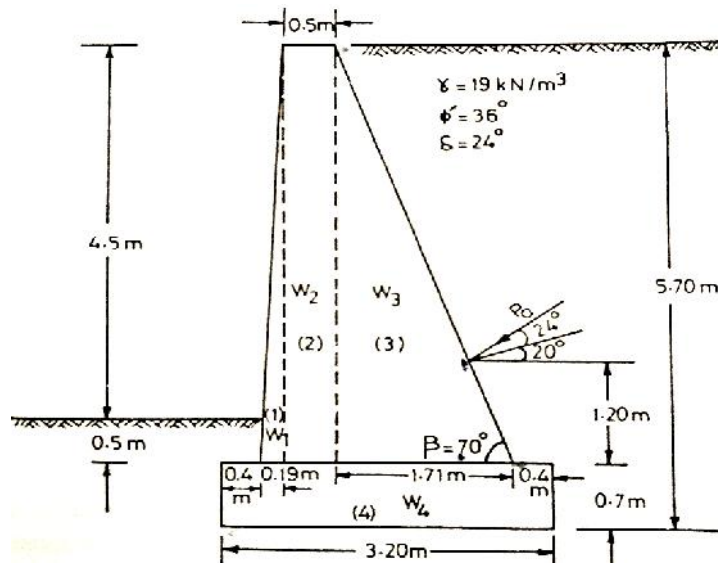

Fig.1
7. Check the stability of the gravity retaining wall shown in fig.1. Take allowable soil pressure equal to  $600\text{kN/m}^2$ . Use Coulomb's theory.